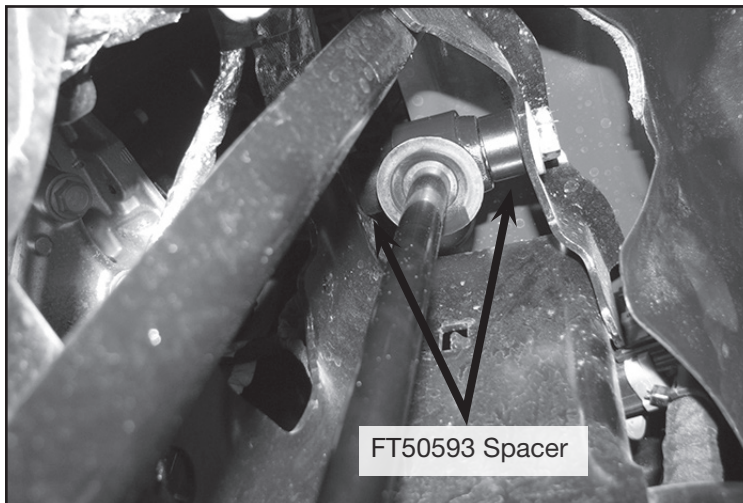

FIGURE 17 - STEP 17
17. **(Upper Shock Mount)** Locate FTS6354 (Stealth Shock) and install FT404739 (Sleeve) into each bushing. Next, Install the shock using (2) FT50593 (Spacer) on each side of the bushing using the factory hardware. **NOTE: If installing Dirt Logic shocks use the instructions provided in those boxes.** Torque to 100 ft-lbs. **SEE FIGURE 17**